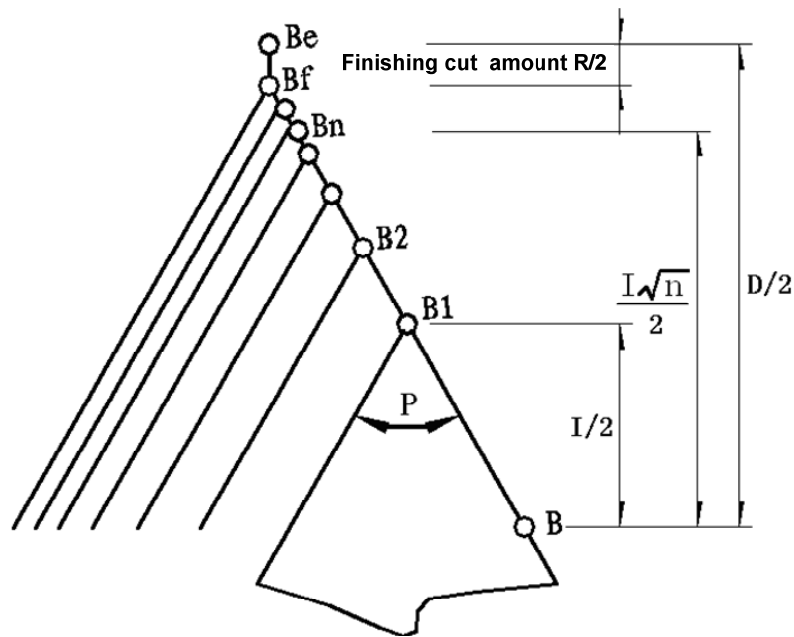

Fig. 4-46
The cut-in method is shown in Fig. 4-46:
- 1) Using G76 thread cycle cutting command group can complete the thread cutting with specified tooth height (total cut depth) by multiple thread roughing and finishing; when the thread angle defined by the command ① is not 0°, the cut-in point of thread roughing gradually moves to the thread tooth bottom from the thread tool top, so that the angle between two neighboring teeth is the specified thread angle.
- 4) If the thread angle defined by G76 command ① is not 0°, the difference between G76 command ② and G92 is: in the process of each thread cycle of G76 ② from the starting point to cut-in point, X, Z move simultaneously at first, and the thread axis reaches the cut-in point, and then the non-thread axis moves to the cut-in point independently; the other cut path is the same as that of G92 . See Fig. 4-46.